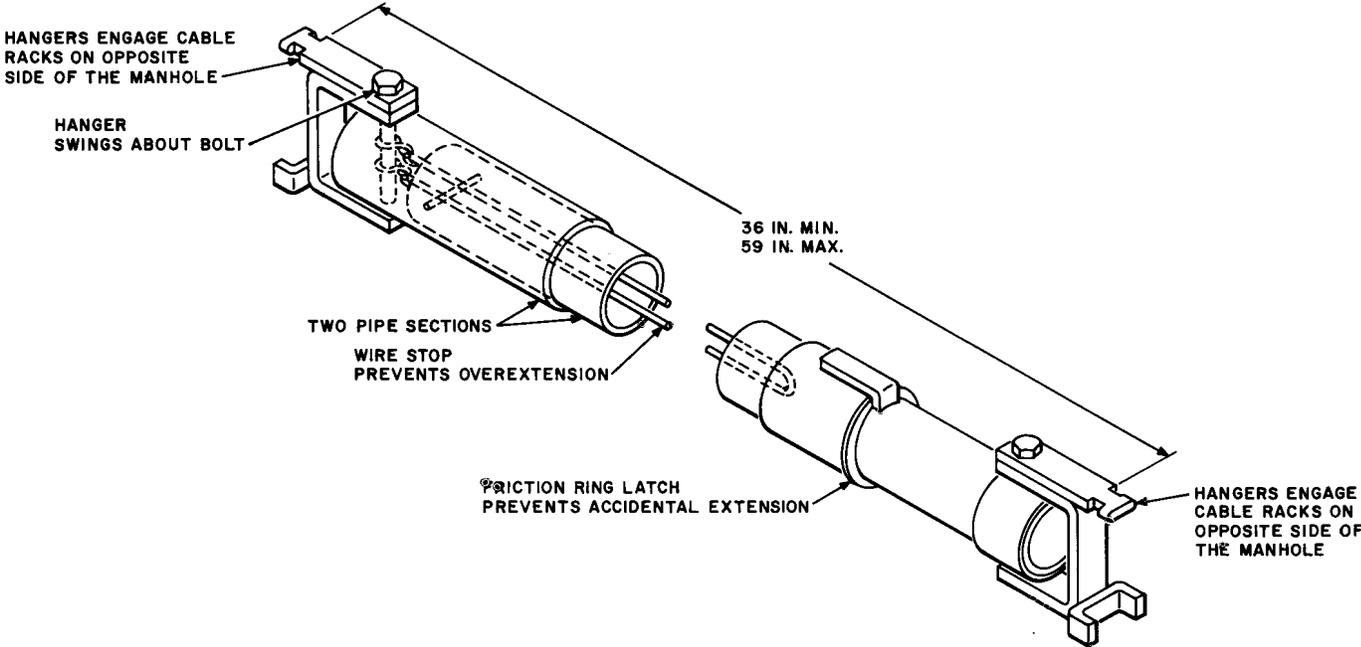

Fig. 3—Manhole Platform Support
2.06 This Manhole Platform Support is illustrated in Fig. 3. It has a maximum open working position of 59 inches and a minimum closed working position of 36 inches.